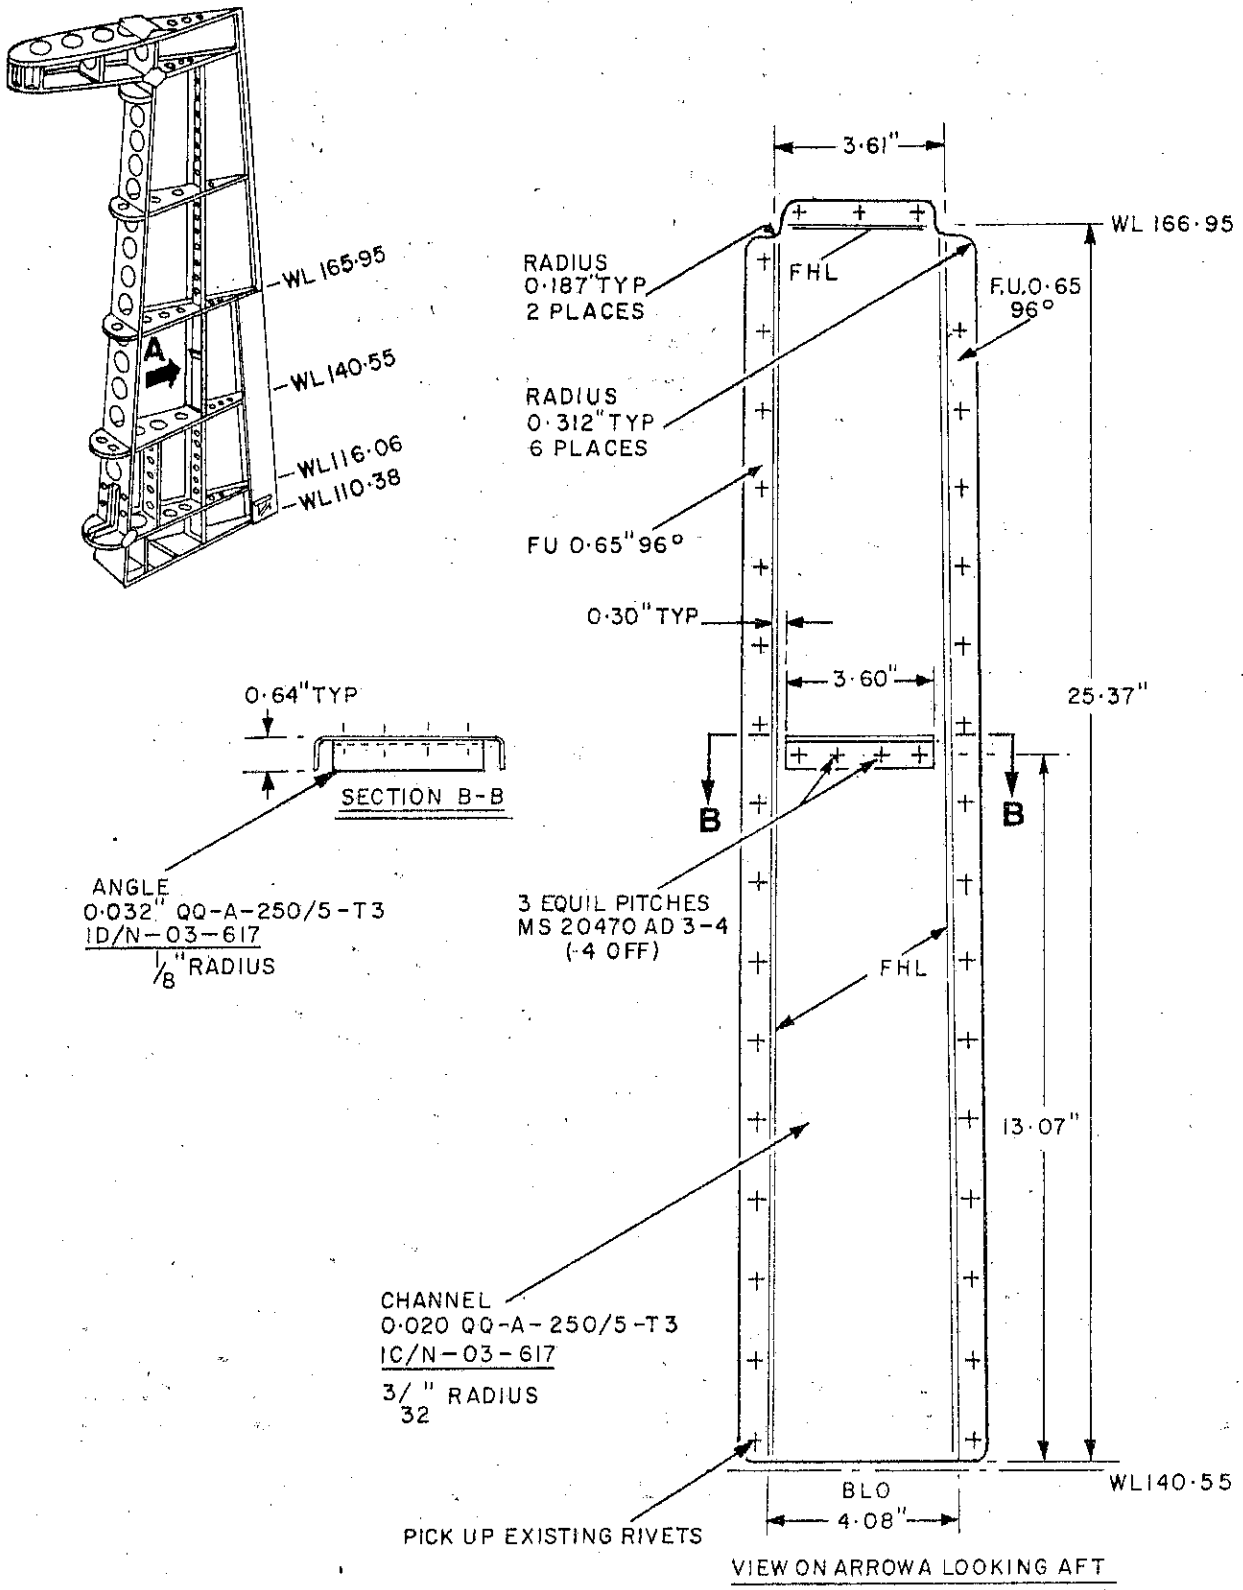

FIG 2
- E. If no cracks are evident, reinforce both flanges of intercostal in accordance with fig 1; or replace with intercostal locally manufactured (heavier gauge without lightening holes) in accordance with figure 2.
Use cherry rivets CR 3223-4-1 and CR 3223-4-2 between WL 140.56 and W 165.95 (refer Service Bulletin NMD-51-1 figure 2).